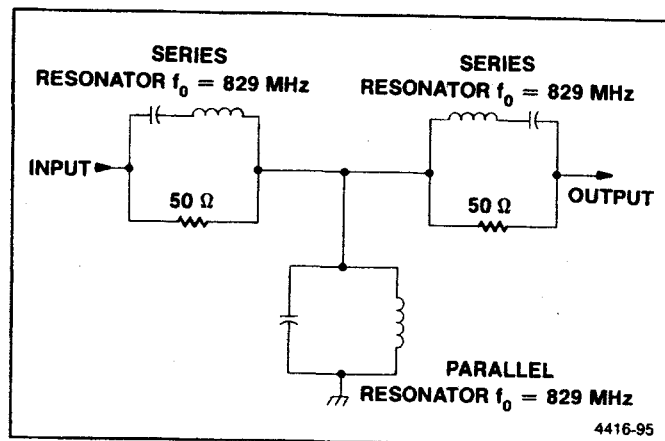

Figure 7-3. Simplified diplexer diagram.
**829 MHz Diplexer.** The 829 MHz Diplexer (A23A4) passes signals at 829 MHz with approximately 1 dB minimum attenuation and 200 MHz pass-band. Frequencies outside the pass-band but between about 50 kHz to 2 GHz are terminated in  $50\ \Omega$  loads with a match of at least 10 dB. Figure 7-3 shows a simplified schematic of the diplexer.
As shown in the schematic diagram, the diplexer contains components not shown in Figure 7-3. The  $50\ \Omega$  terminations are actually two pairs of  $100\ \Omega$  resistors, R1014-R1015 and R1011-R1012, connected in parallel to reduce load inductance. Small capacitors, C1010 and C1013, are connected across each load to improve impedance match at frequencies above the pass-band. The inductor in the parallel resonator is a printed length of transmission line that is tapped to establish the correct bandwidth. One end of this inductor is grounded through four capacitors so that dc bias from the 1st Local Oscillator Driver can be introduced to the 1st Mixer (A12) or the EXTERNAL MIXER input through this diplexer. Several capacitors are used in parallel to minimize inductance and circuit Q degradation. A low-pass filter is included in the bias line to minimize any noise from the 1st LO driver.